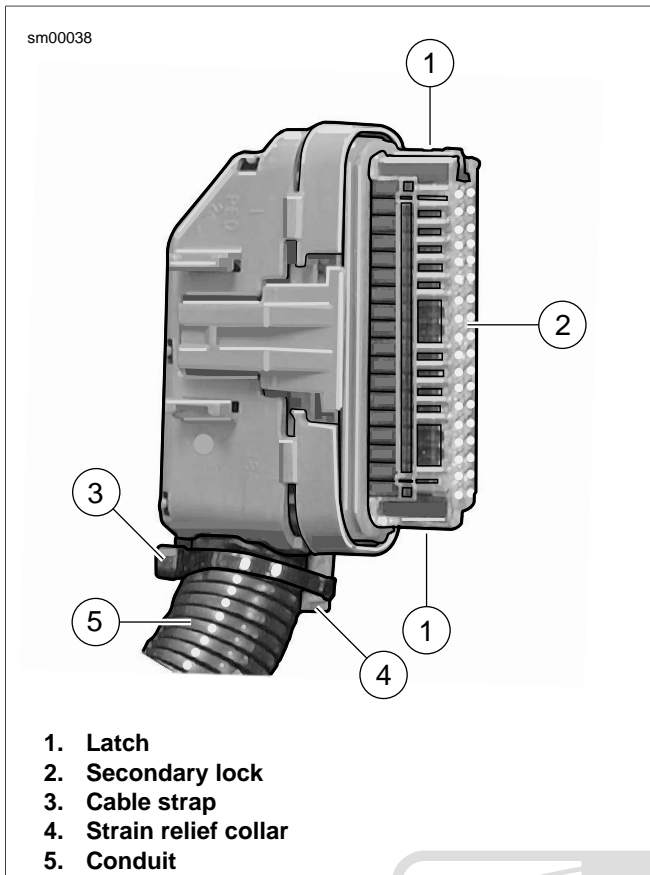
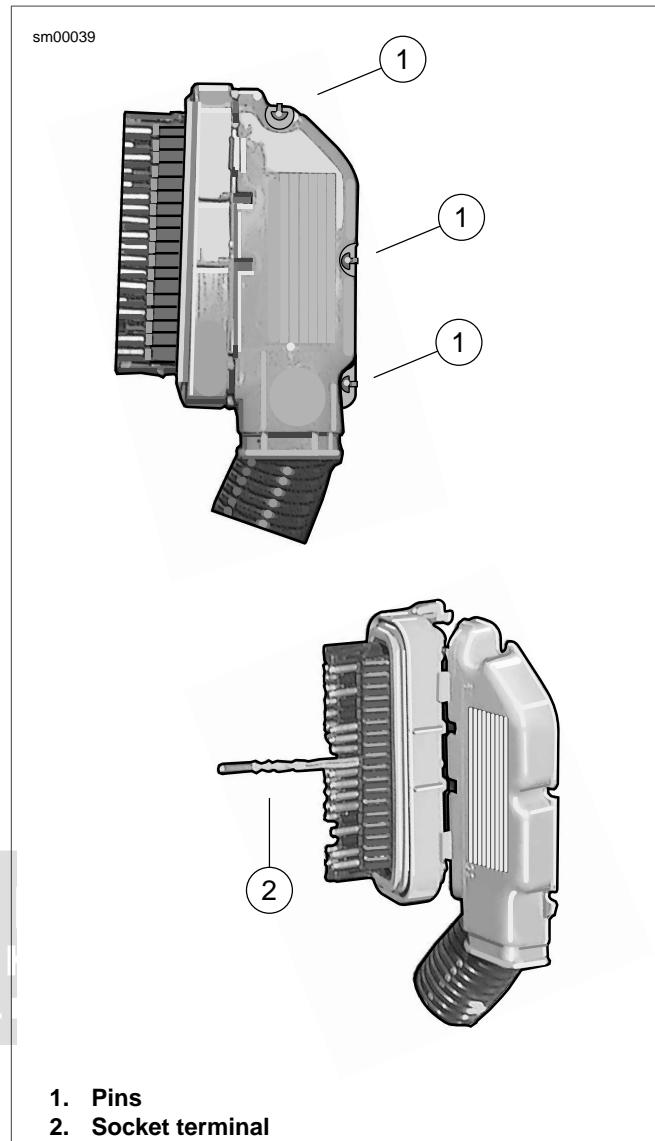

Figure A-45. Packard 100W Connector
Figure A-46. Packard 100W Connector: Separate Halves of Socket Housing
1. See Figure A-45. Gently depress latch (1) on each side of the clear plastic secondary lock (2) and remove. For best results, release one side at a time.
2. Carefully cut cable strap (3) to free strain relief collar (4) from conduit (5).
3. See Figure A-46. Using a thin blade, gently pry at seam at back of socket housing to release three plastic pins (1) from slots in housing. Separate and spread halves of socket housing.